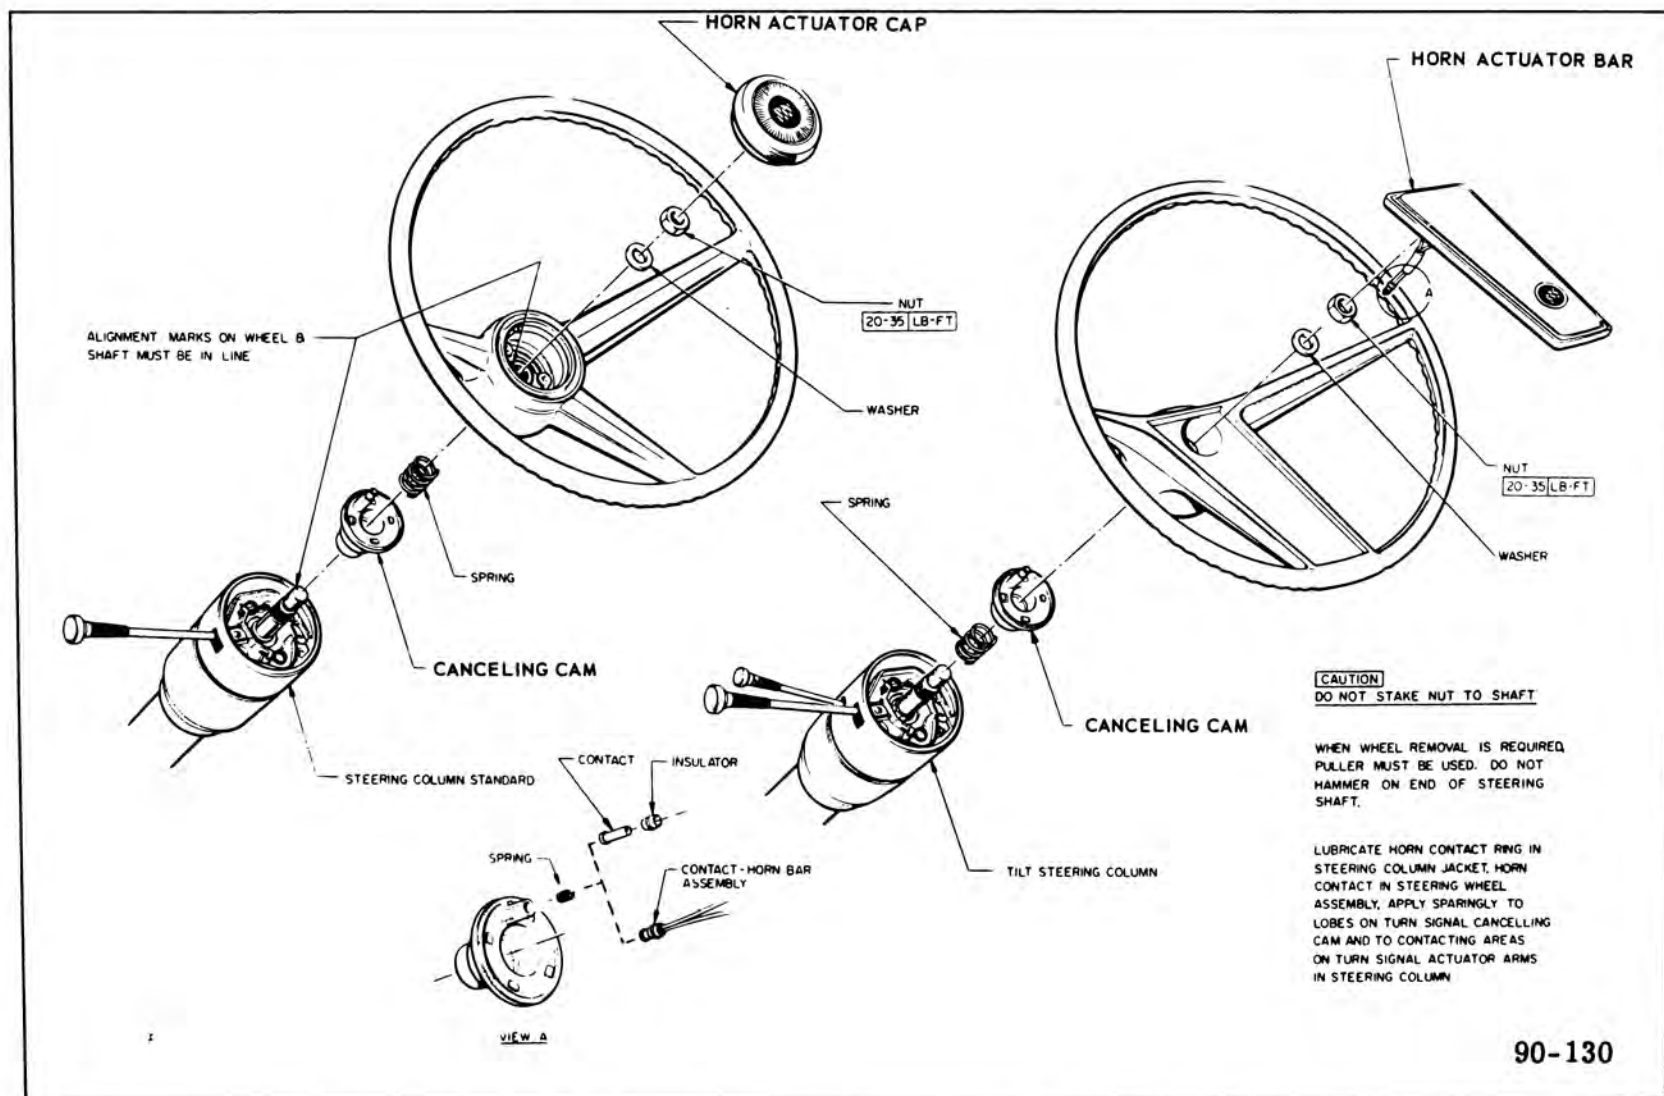

Figure 90-83 Steering Wheel Installation (43-44000 Series)
3. On all other Series cars remove screws from underside of steering wheel that secure horn actuator bar, partially lift off bar, pull lead connector from canceling cam, then fully lift off bar. See Figures 90-83 and 90-84.